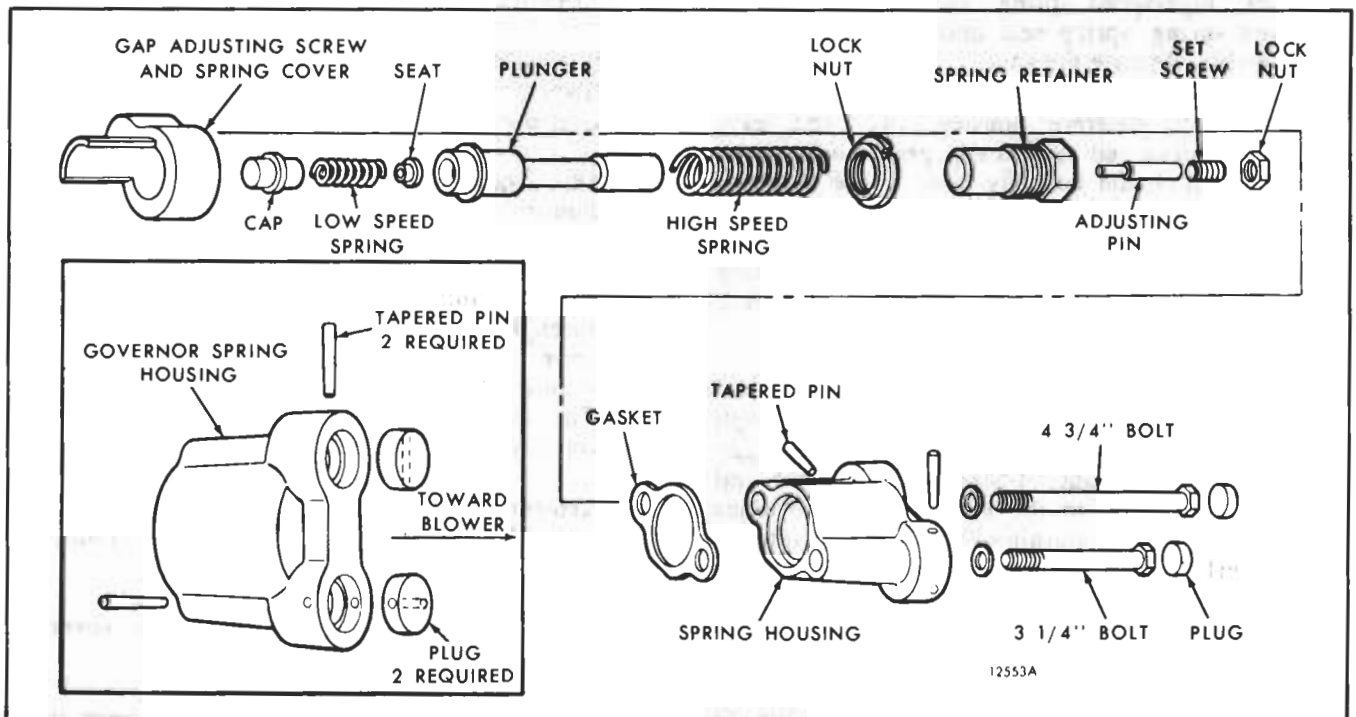

Fig. 5 - Tamper-Resistant Governor Components (Former)
The new governor spring housing has one inch of additional metal resembling two bosses cast on the bolt head of the housing (Figs. 5 and 6). These bosses are counterbored to accept the two bolts which hold the spring housing on the governor housing and to allow for the installation of plugs over the bolt heads. The plugs are secured in the counterbores by tapered pins which, when driven in place, cannot be removed when the governor is mounted on the blower. In order
3. Refer to Figs. 5 and 6 and install the gap adjusting pin and set screw and spring cover and spring assemblies in the governor housing as follows:
- b. On the former tamper-resistant governor, place the gap adjusting screw and spring cover (Fig. 5) in the governor housing with the threaded bolt
- c. On the former tamper-resistant governor, insert the 4-3/4" attaching bolt with copper washer through the top bolt hole in the spring housing and thread it into the threaded hole in the former gap adjusting screw and spring cover (Fig. 5). Tighten the bolt.
5. Refer to Fig. 5 and install the tamper-resistant plugs and pins in the counterbores of the spring housing as follows:
5. Refer to Figs. 5 or 6 and install the tamper-resistant plugs and pins in the counterbores of the spring housing as outlined under Step 5, Items a through c above.
NOTE: If the spring housing of a former tamper-resistant governor (Fig. 5) is removed for any reason, the gap adjusting screw and spring cover will fall into the governor housing. Therefore, it is important to remove the governor cover and lever assembly and check to make sure that the gap adjusting screw and spring cover is secured by the 5/16"-18 x 4-3/4" bolt after the spring housing is re-installed.